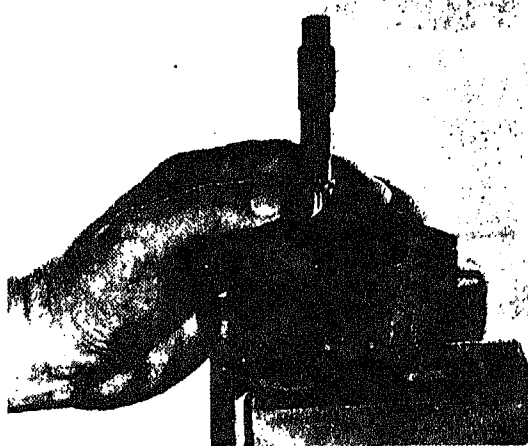

Fig. 504-4 Check gear pocket depth
3. Check gear body and cover for scoring or wear, and replace parts as needed. Check gear pocket depth. See Table 504-1, Fig. 504-4.